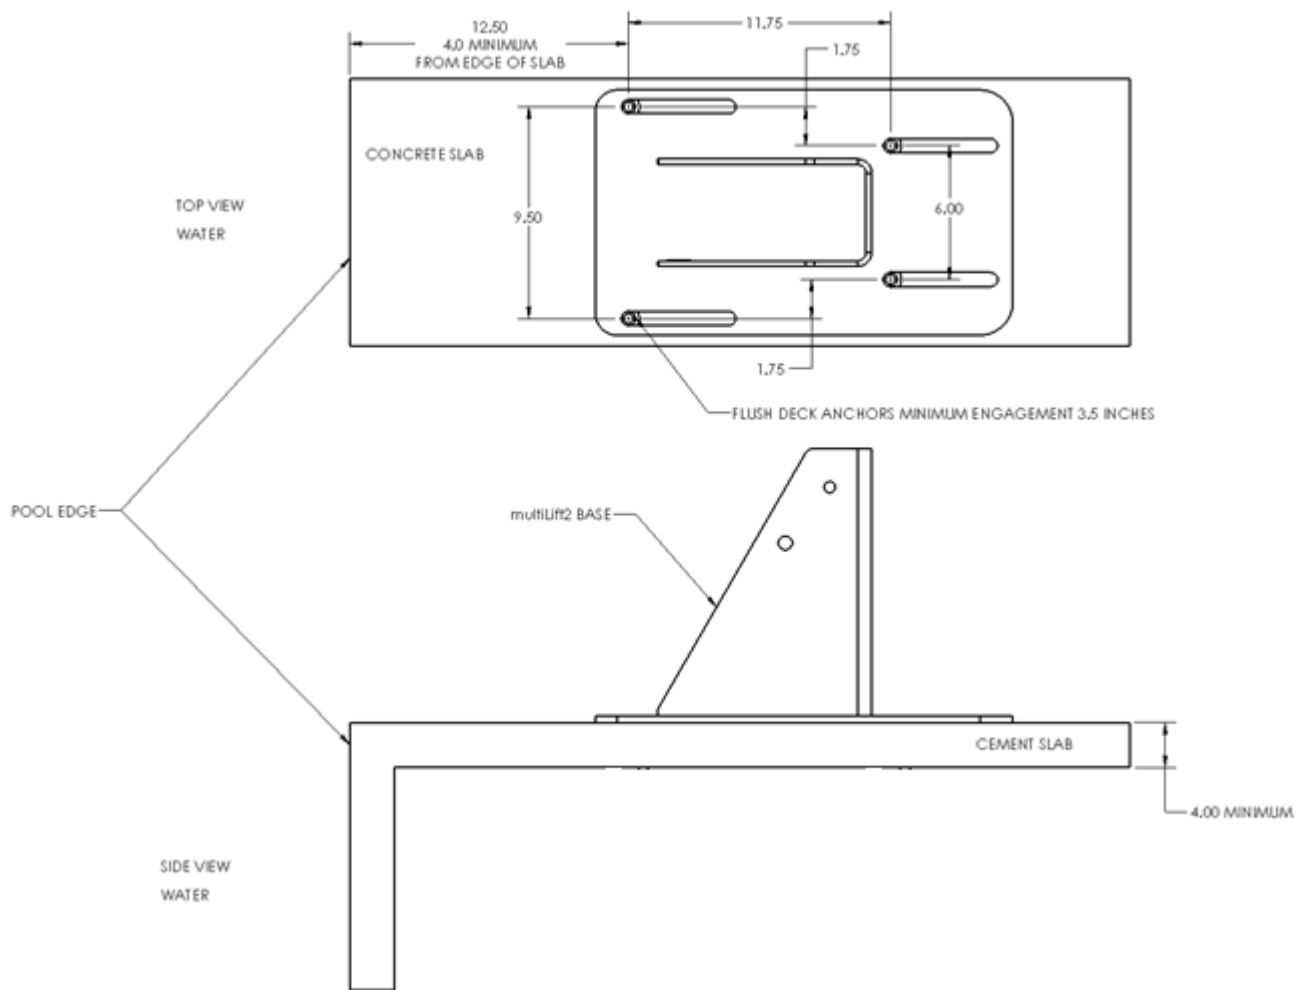

Figure 20
- Slab dimensions should be at least 42" X 60" X 4", reinforced. See Figure 20 above.